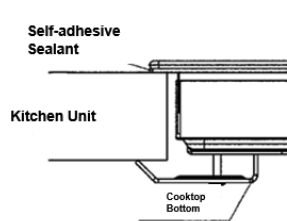

**Fig. 5**
- b. Turn the cooktop over and correctly position the seal under the edge of the cooktop so that the outer side of the seal aligns with the outer peripheral edge of the cooktop (refer to **Fig. 5**). The ends of the strips must fit together without overlapping.